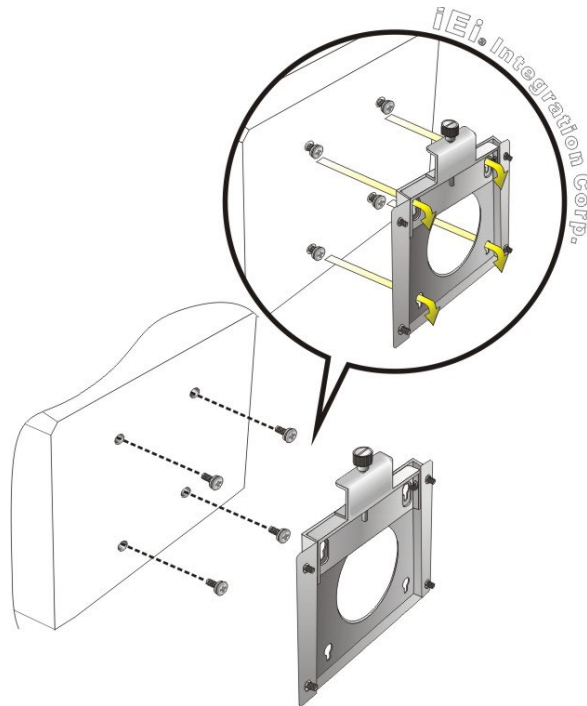

Figure 3-25: Chassis Support Screws
- Step 6:** Insert the four monitor mounting screws provided in the wall mount kit into the four screw holes on the rear panel of the medical panel PC and tighten until the screw shank is secured against the rear panel (**Figure 3-25**).
Step 8: Carefully insert the screws through the holes and gently pull the monitor downwards until the monitor rests securely in the slotted holes (**Figure 3-25**). Ensure that all four of the mounting screws fit snugly into their respective slotted holes.